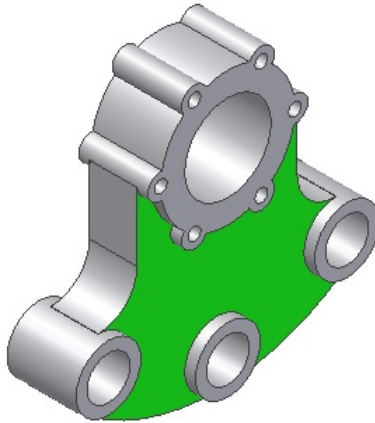

Figure 6-142 *Final model*
- Finally, create the central hole, refer to Figure 6-142.
5. Choose **OK** to create the hole and exit the dialog box. The isometric view of the final model for Tutorial 3 is shown in Figure 6-142.